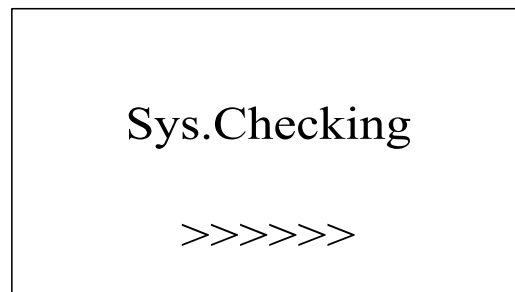

Figure 4-1 System self check ongoing
(1) System check mode for start up, as shown in Figure 4-1: